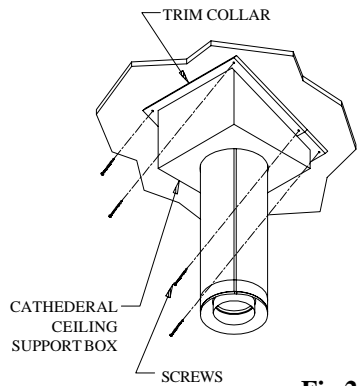

Fig 21
Step 9. Install the black Trim Collar around the outside of the Cathedral Ceiling Support Box. The two pieces of the Trim Collar slide over one another to allow for easy adjustment around the Support Box. Using the six (6) screws provided, secure the four corners and the overlapping sections of the Trim Collar to the ceiling. You may want to pre-drill the holes for the overlapped sections for ease of installation. See Figure 21.